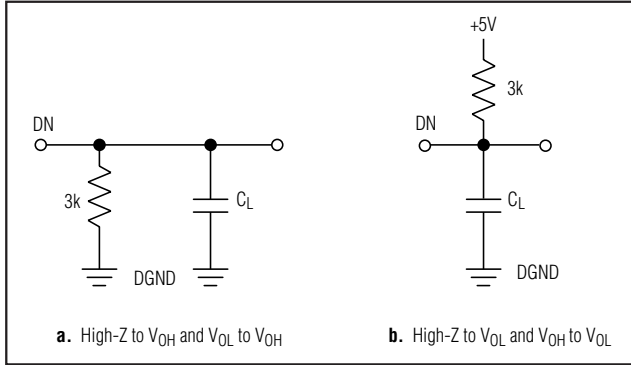

図1. アクセス時間の負荷回路
**Note 15:**  $t_3$  and  $t_6$  are measured with the load circuits of Figure 1 and defined as the time required for an output to cross 0.8V or 2.4V.